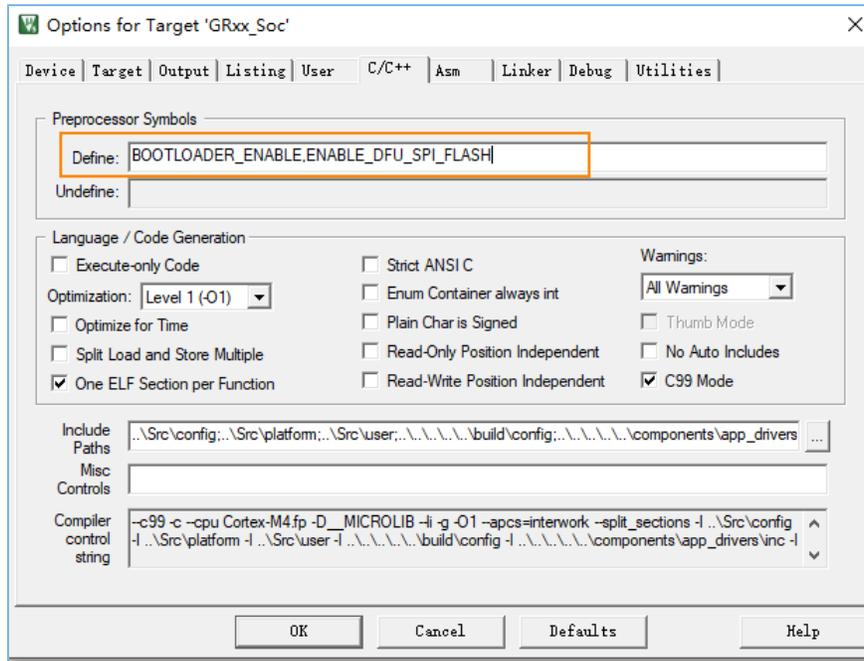

Figure 4-30 To enable external Flash resource upgrade
- A common scenario is to perform external Flash resource upgrade in ble_app_template_dfu firmware. Configure "ENABLE_DFU_SPI_FLASH" in the ble_app_template_dfu project, as shown in Figure 4-30, to enable the current project to perform external Flash resource upgrade.
- To upgrade external Flash resources in App bootloader firmware, you need to add “ENABLE_DFU_SPI_FLASH” as shown in Figure 4-30, and add a macro to enable Bluetooth LE in the app_bootloader project. The table below lists the configuration in detail.